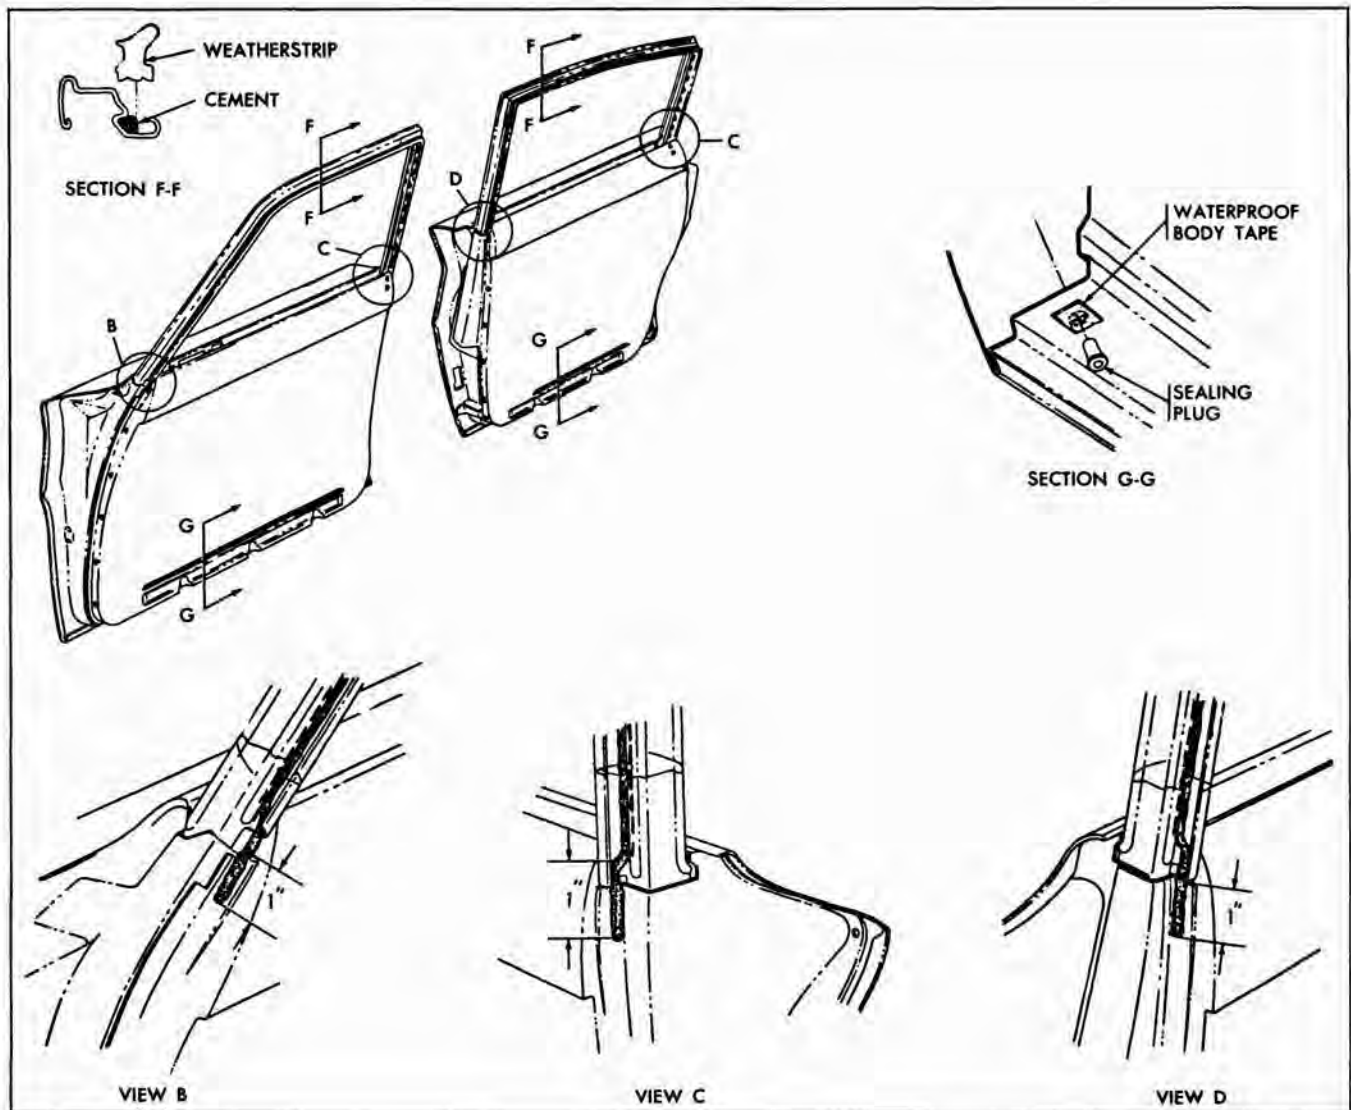

Fig. 13-7 Door Weatherstrips
backed waterproof body tape over sealing plug retaining hole as shown in Section "G-G" of Fig. 13-7. Make two 5/16" slits in tape to form an "X". Install plug and check for a snug fit. If plug is still loose, repeat above operation by installing a second piece of tape over existing repair. This procedure may also be used to repair waterleaks which develop at sealing plug locations.
4. Prior to installation of weatherstrip on either door, apply a continuous bead of an approved weatherstrip cement extending from approximately one (1) inch below window frame at hinge pillar section (see view "B" or "D") along entire outboard portion of door weatherstrip retaining channel (see Section "F-F") to approximately one (1) inch below lock pillar section of window frame assembly as shown in view "C" (Fig. 13-7).
3. Check all attaching hole sealing plugs. If sealing plugs are loose and will not remain engaged in door inner panel, install a 1/2" x 1" piece of cloth-backed waterproof body tape over sealing plug retaining hole as shown in section "G-G" of Fig. 13-7. Make two (2) 5/16" slits in tape to form an "X" pattern. Install plug and check for a snug fit. If plug is still loose, repeat above operation by installing a second piece of tape over existing repair. This pro-